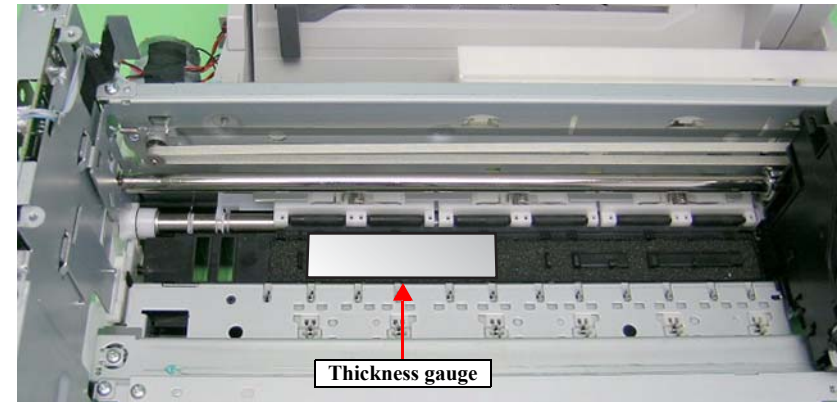

Figure 5-15. Placement position for thickness gauge
16. Set the thickness gauge at position shown by Figure 5-15 again.